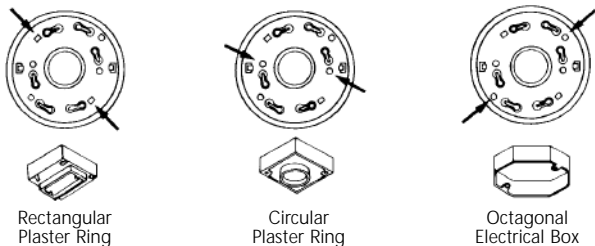

FIGURE 5 SELECT CORRECT MOUNTING HOLES ON TRIM RING
2. After selecting the proper smoke alarm location as described in section 1 and wiring the AC QUICK CONNECT harness as described in the WIRING INSTRUCTIONS, attach the trim ring to the electrical box (see figure 5).
3. Use a screwdriver to punch out only the pair of holes in the trim ring that match your type of electrical box or plaster ring. Mount the trim ring to the electrical box, using the appropriate holes. NOTE: Use the circle, square and octagon markings near each mounting hole in the trim ring to help you select the correct mounting holes (see figure 5).
4. Pull the AC QUICK CONNECTOR through the center hole in the trim ring and mount the ring, making sure that the mounting screws are positioned in the small ends of the keyholes before tightening the screws (see figure 5).